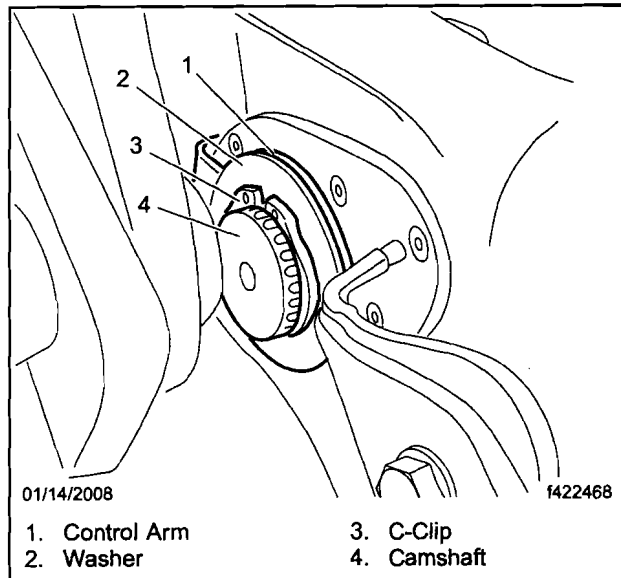

Fig. 2, C-Clip Installation
9. Remove the snap ring that holds the slack adjuster to the camshaft. See Fig. 2.
24. Turn the adjusting hexnut clockwise until the slack adjuster hole is aligned with the pushrod clevis hole. See Fig. 2.